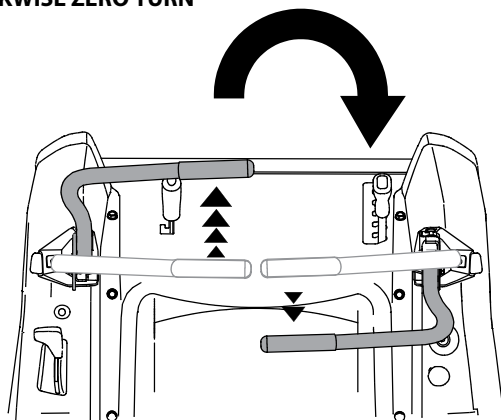

Figure 5-9
- To turn clockwise, move the left control lever forward while simultaneously moving the right control lever rearward. See Figure 5-9.